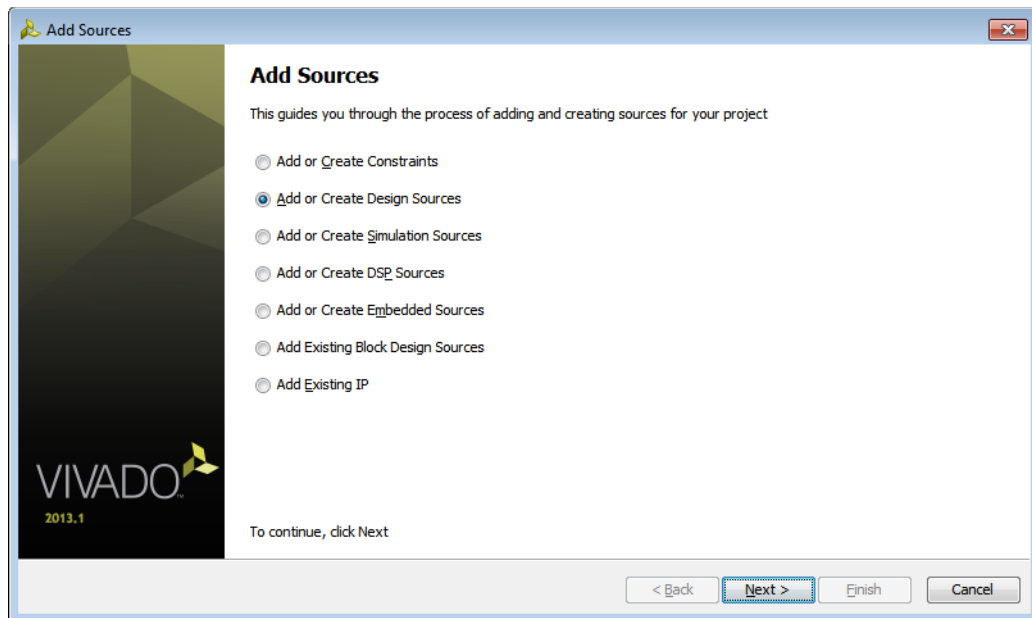

Figure 3-1: Add Sources Wizard
2. In the Add Sources wizard (Figure 3-1), select **Add or Create Design Sources**, and click **Next**.
2. In the Add Sources wizard (Figure 3-1), select **Add or Create Constraints**, and click **Next**.